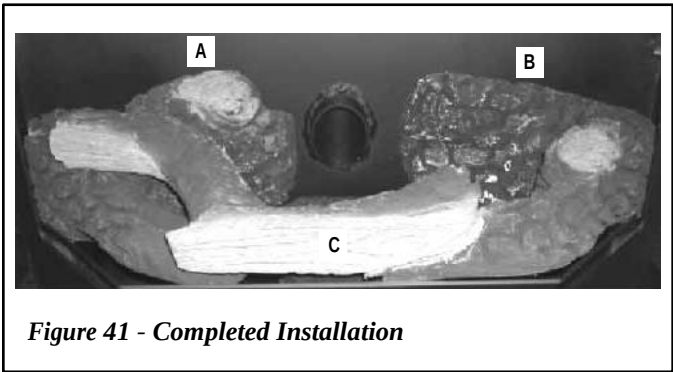

Figure 41 - Completed Installation
3. Remove the ceramic logs from the box and carefully unwrap them. Position each back log (A and B in **Figure 41**) in their proper place, one on each side against the back of the firebox.
4. The front log should face the front of the firebox with the wood grain showing. It should rest on the other two back logs. See **Figure 41** for assembled log set.